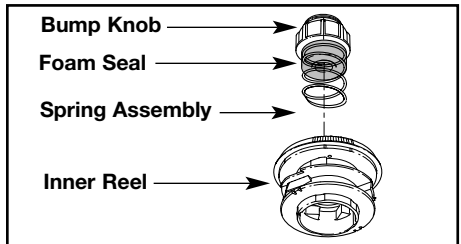

Fig. 20
2. Remove the Bump Knob, foam seal, spring, inner reel, and trimming line from the outer spool (Fig. 20).
5. Install the inner reel, spring, foam seal, and Bump Knob into the outer spool (Fig. 20).